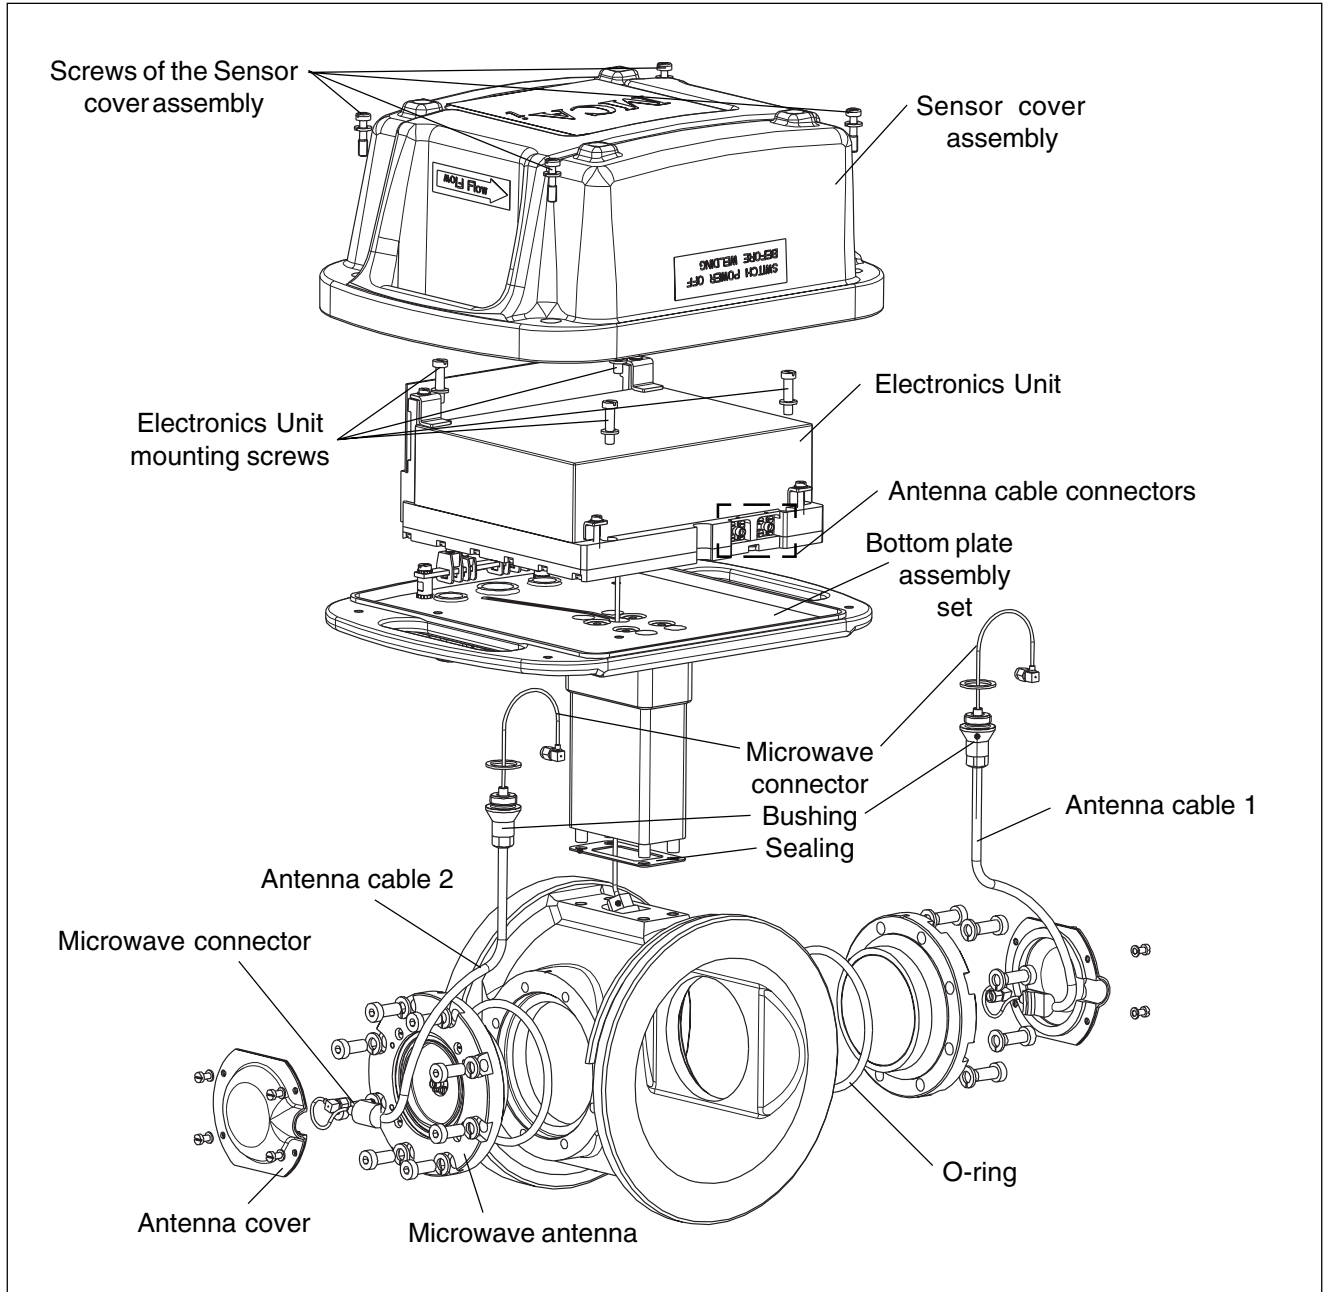

Fig. 11.2. MCAi-FT sensor.
11.C.1. Replacing the Electronics Unit (Fig. 11.2)
11.C.2. MCAi-FT antenna cables (Fig. 11.2)
11.C.3. MCAi-FT microwave antennas (Fig. 11.2)